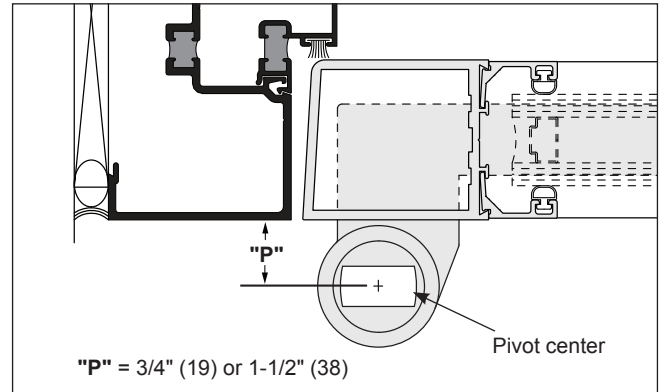

FIG. 1
1. Determine the pivot center of the Offset Arm at the bottom of the door to be installed. The pivots center can be offset by 3/4" (19) or 1-1/2" (38). The offset is measured from the face of the door to the pivot center. **(Fig. 1)**